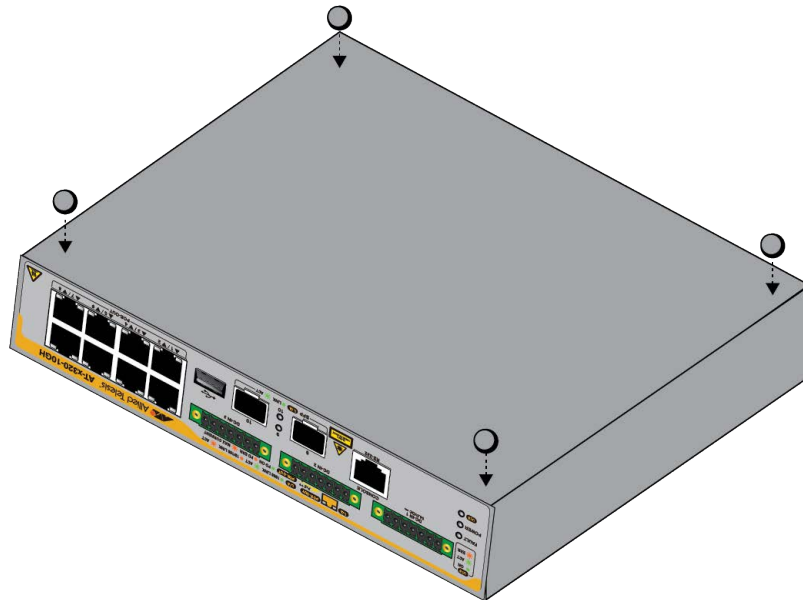

Figure 25. Affixing the Adhesive Feet
4. Affix the four adhesive feet to the four corners of the bottom of the switch, as shown in Figure 25.